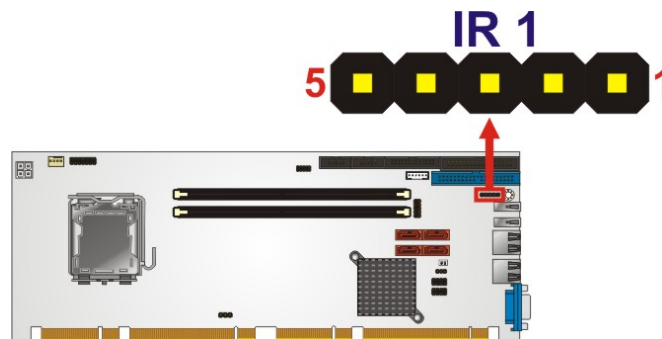

Figure 3-9: Infrared Connector Location
- CN Location:** See **Figure 3-9**